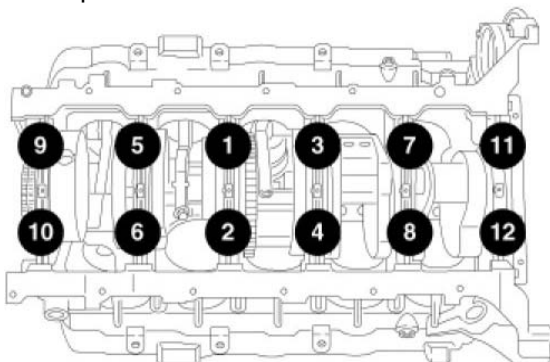

Figure 1 - Main Cap Torque Sequence
11. **Following the manufacturer's recommended torque sequence, Figure 1, tighten the nuts per the steps below:**